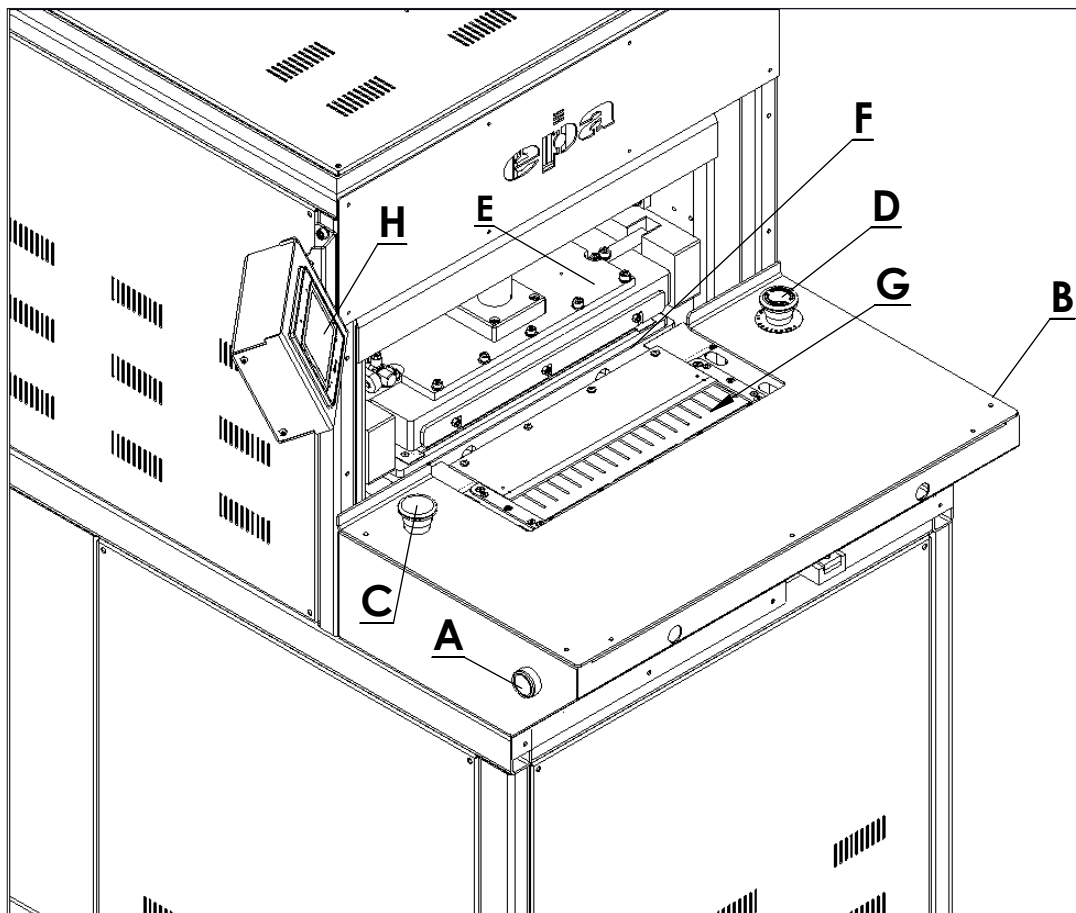

Figure.6
- "E-F" resistances will start to heat in plates of press in Figure.6.
- For unforeseen using, earlier on you can set from heat settings page in operator panel (Figure.6-H) that adjustable heat shows the appropriate.
- Provide to run the engine by pressing vacuum start button in Figure.6-D.
- Insert the fabric to be ironed to boss in Figure.6-G appropriately. Adhering to the outer marginal, justify the fabric by centering.
- When the fabric folded seamlessly, press in Figure.6-A,B to the two start buttons and hold until the pressing stroke has completed.